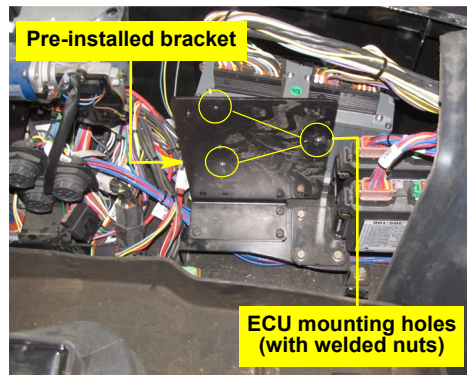

Figure 2a: ECU mounting bracket
- a. Locate the pre-installed ECU mounting bracket in the cabling compartment behind the driver's seat (Figure 2a).